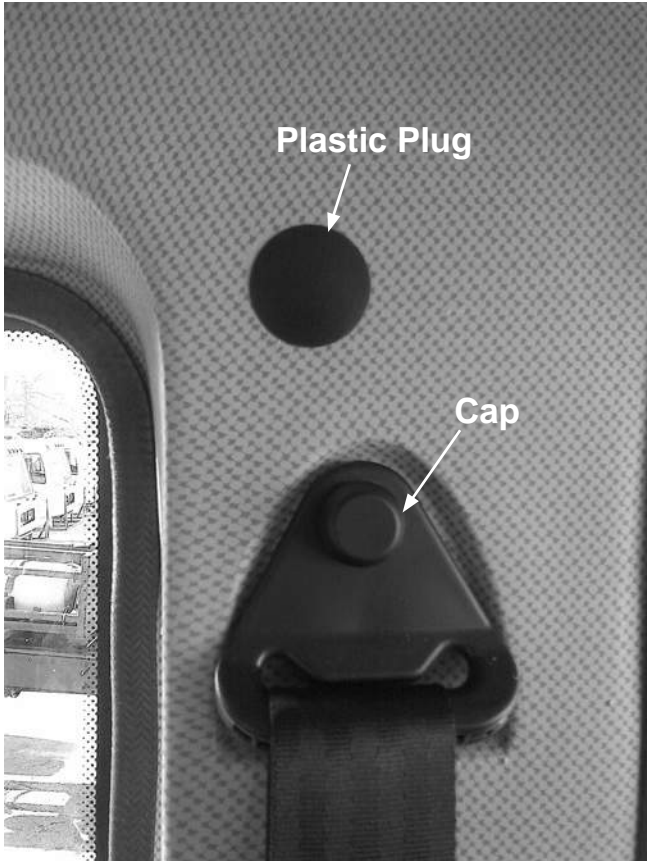

Figure 13-6
9. Install the plastic plug (S5000012-001) and reinstall the anchor cap (see Figure 13-6).